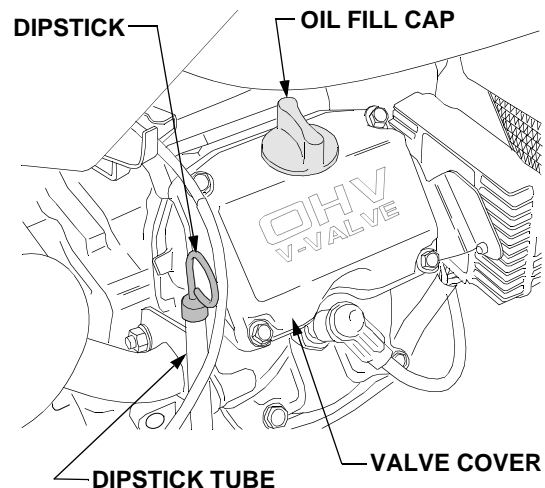

Figure 50
- Check the oil level only while the engine is stopped and the tractor is level. Clean the area around the oil level dipstick to prevent debris from entering the crankcase. See Figure 50.
- To check the oil level, withdraw the dipstick and wipe it clean; then insert the dipstick all the way into the tube before withdrawing it for a true reading. See Figure 50.
- Clean the area around the oil filler cap to prevent debris from entering the crankcase. Refer to Figure 50.
- Remove the dipstick and oil fill cap from the engine. Refer to Figure 50.